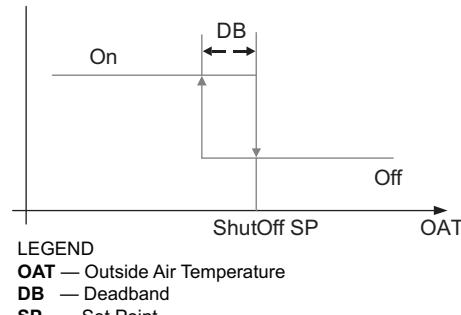

Fig. 72 – Hysteresis Settings
Hysteresis setting (DB) defaults to 2°F (−17°C). See Fig. 72.